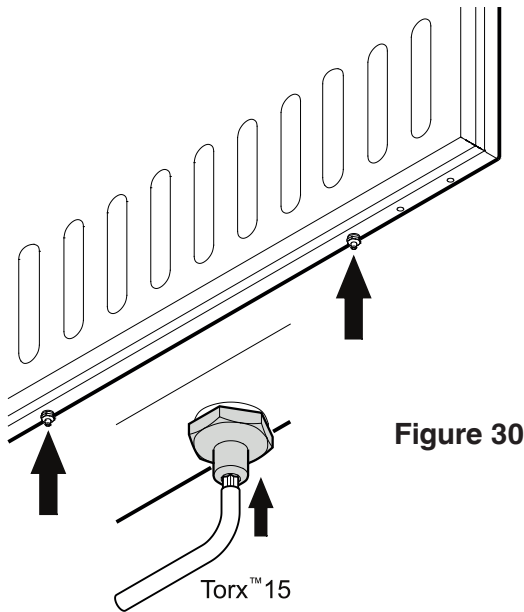

Figure 30
1. Turn in the adjusting bolts on the bottom of the refrigerator door as far as possible (**Figure 30**).